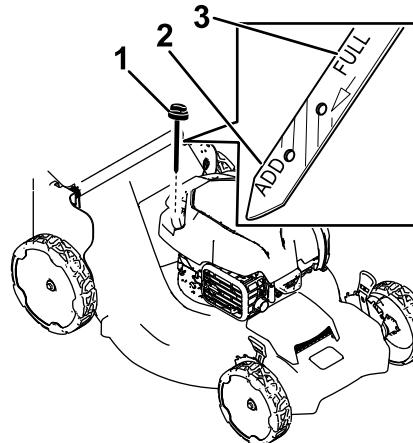

Figure 23
3. Remove the dipstick by rotating the cap counterclockwise and pulling it out (Figure 23).
4. Tip the machine onto its side (so that the air filter is up) to drain the used oil from the oil-fill tube (Figure 23).